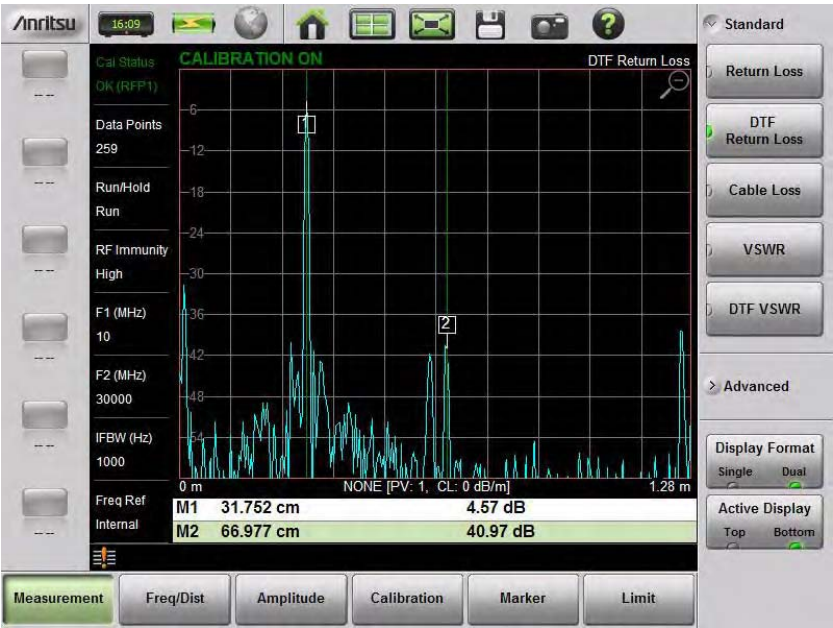

Figure 2-15. Dual Display Format with Bottom Display Maximized
- 5. Figure 2-15 on page 2-27 shows the Bottom graph maximized. Tapping on the magnifying glass restores the dual display.